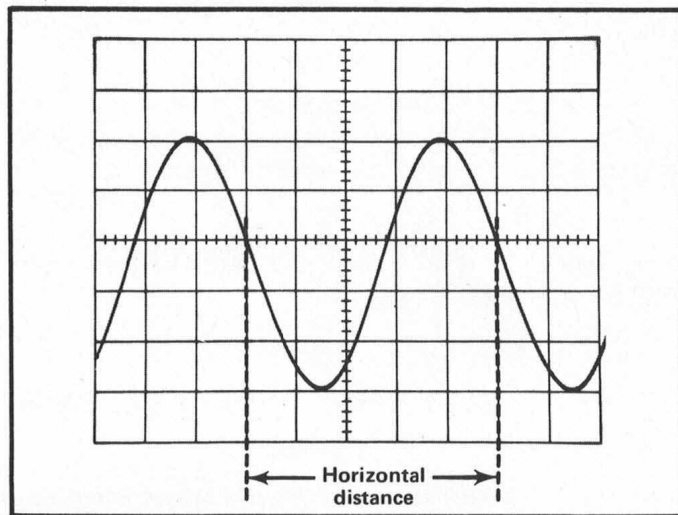

Fig. 4. Measuring the time duration between points on a waveform.
5. Set the TIME/DIV switch to the fastest sweep rate that displays less than ten divisions between the time measurement points (see Fig. 4).
Example. Assume that the distance between the time measurement points is five divisions (see Fig. 4) and the TIME/DIV switch is set to .1 ms with the magnifier off.
Example. The frequency of the signal shown in Fig. 4 which has a time duration of 0.5 millisecond is: